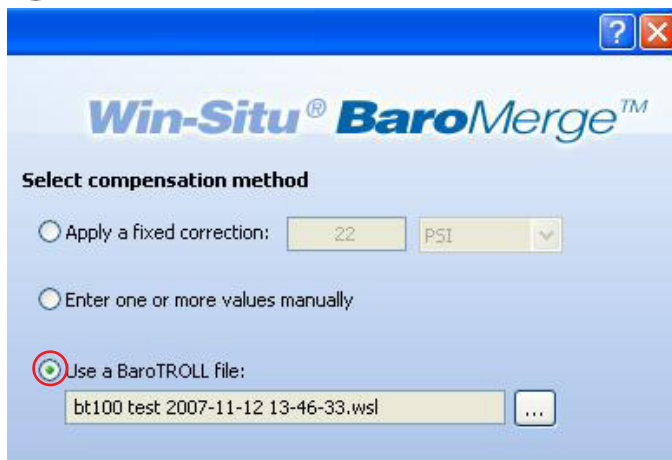

Fig 4. Baro Merge options with BaroTROLL file method selected
2. **In the main window, select "Use a BaroTROLL file" for the compensation method (Fig. 4).**
4. **The main window returns to the screen with the Rugged BaroTROLL log file displayed (Fig. 4). Click Next  to continue.**